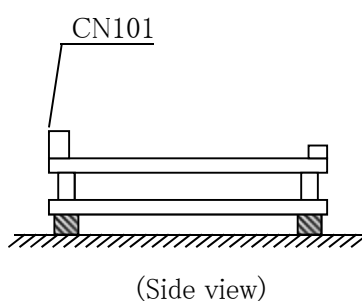

Fig.1.1 Mounting method
- (1) Input : AC 90 ~ 264 [V]
(2) Output : Rated output
(3) Mounting method : Shown as Fig.1.1